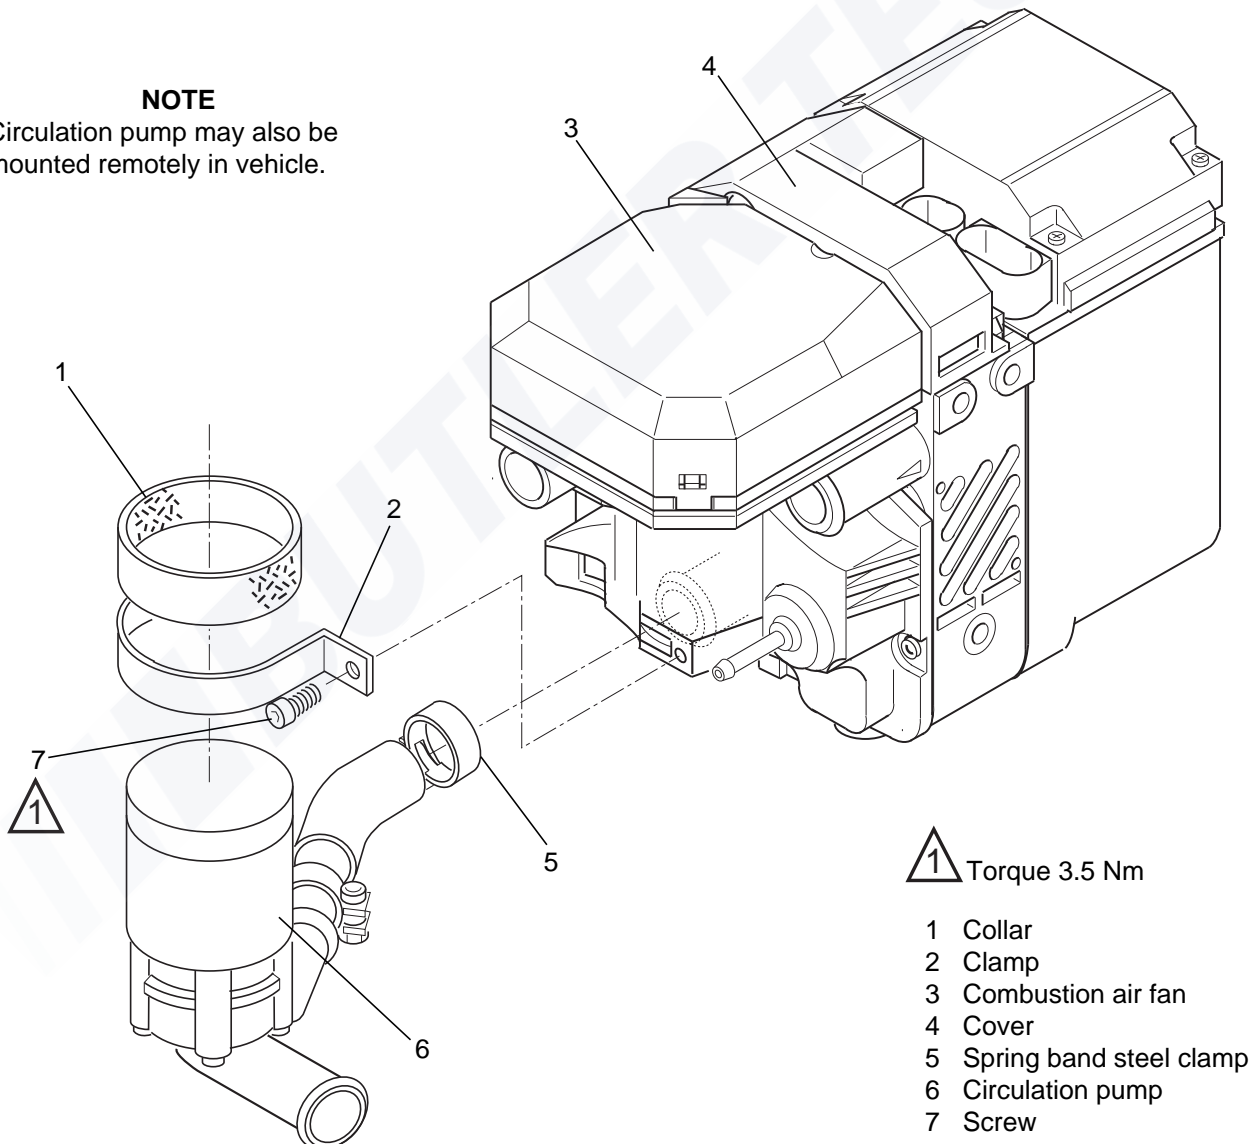

Fig. 901 Replacement of Circulation Pump (Thermo Top E and C)
1. Remove cover (4, Fig. 901) and disconnect electrical connector of circulation pump.
2. Loosen spring band steel clamp (5, Fig. 901).
3. Remove screw (7) and clamp (2).
4. Withdraw circulation pump (6) and remove spring band steel clamp (5).
5. Withdraw collar (1) as required.
1. Slide spring band steel clamp (5, Fig. 901) onto hose end.
2. Position collar (1) on circulation pump (6) as required.
3. Locate circulation pump (6) for installation and secure with clamp (2) and screw (7) on combustion air fan (3).
4. Position spring band steel clamp (5).
5. Torque screw (7) with 3.5 ± 0.3 Nm.
6. Connect circulation pump electrical connection and fit cover (4).